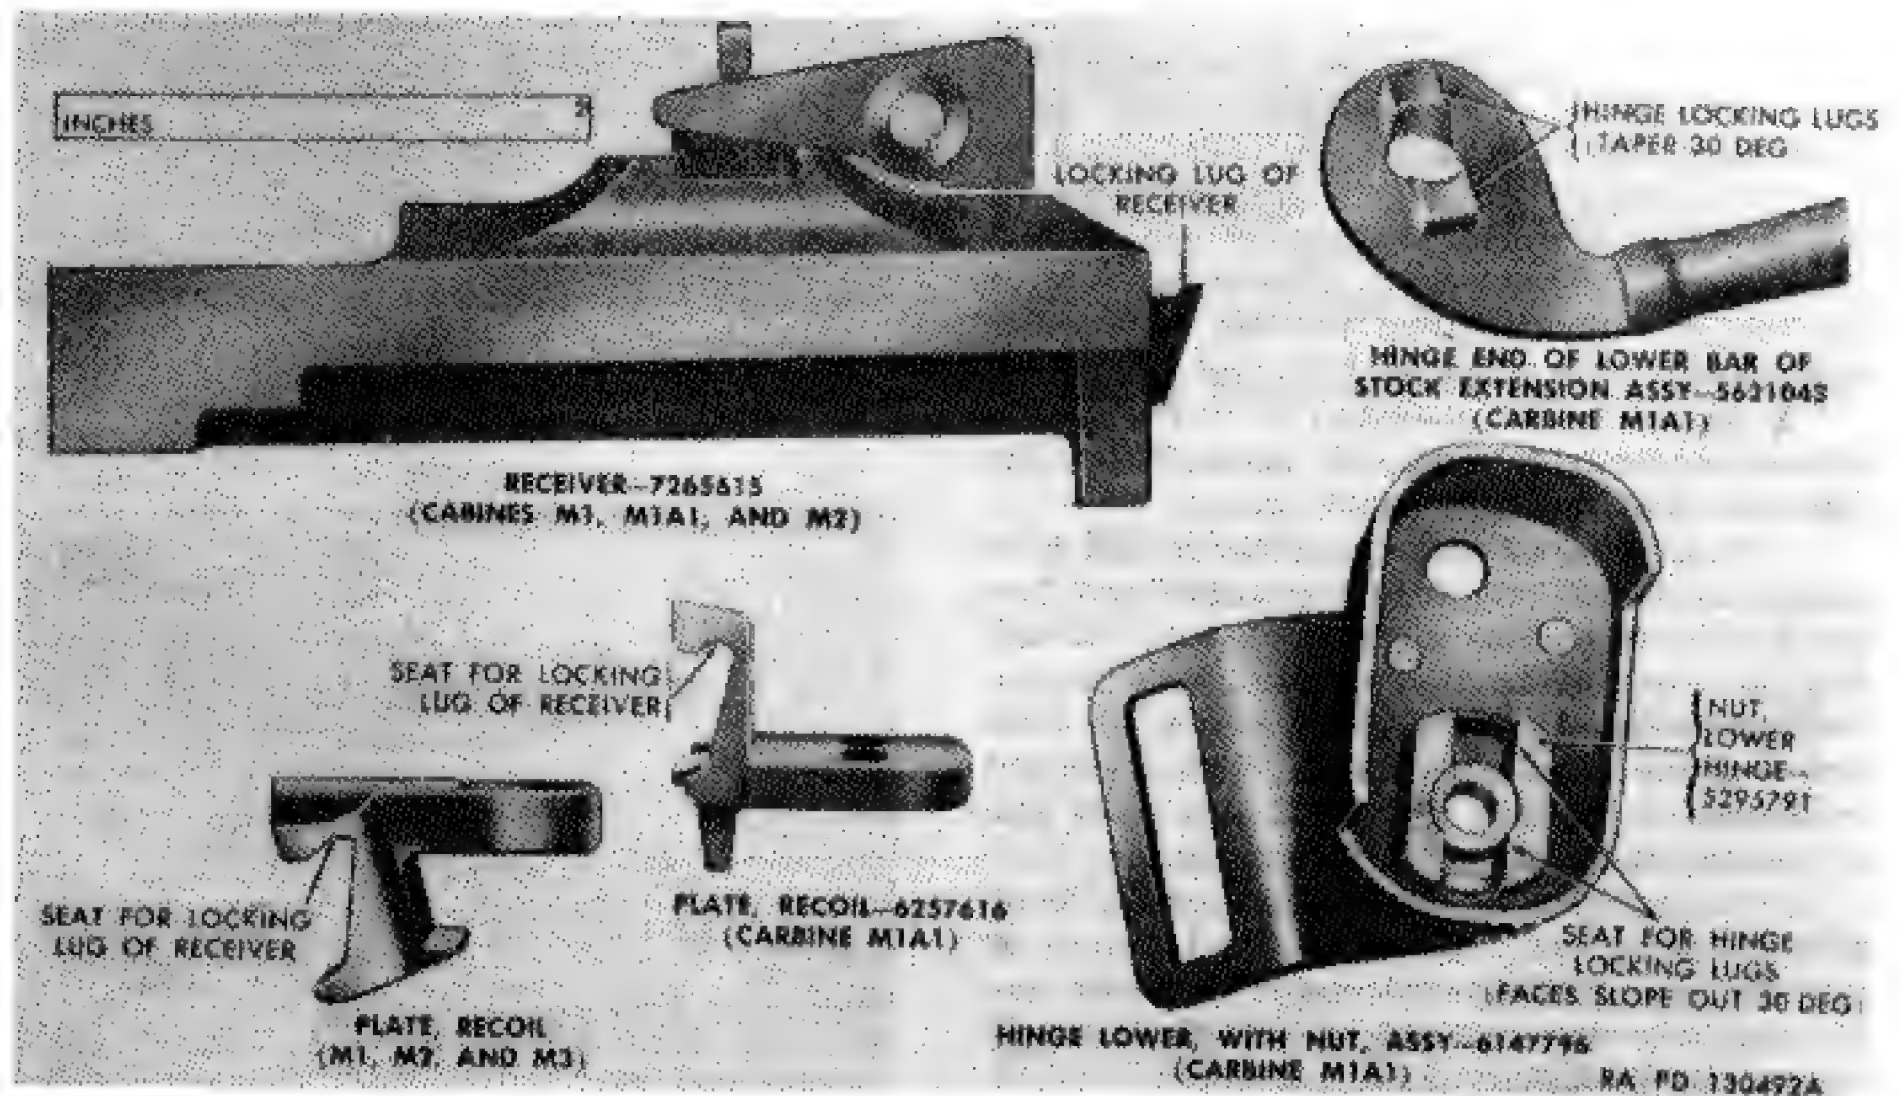

Figure 104. Important wearing surfaces.
*e. Recoil Plate.* Check to assure that recoil plate is free from burrs, excessive wear (Fig. 104) and rust, and that it is properly bedded in stock. Where recoil plate is bedded so deeply in stock that it interferes with proper alignment of action, the stock must be rejected. The recoil plate screw escutcheon should not turn in the stock, have burrs, or worn threads. The screw should be tightened firmly.
f. Inspect receiver locking lug seat in recoil plate for wear and burrs (Fig. 104). When assembling, the locking lug on receiver should cam smoothly into the seat and be held there snugly without play or shake.
i. Inspect locking nut for looseness in lower hinge shell. Inspect shell for deformation. Inspect sling eyelet for looseness on hinge shell (Fig. 104). (Nut is staked or spot-welded in shell and eyelet spot-welded to shell.) Check locking slot in nut for wear and burrs (angle of slot face is 30 degrees). Inspect lower hinge screw for wear and inspect threads in grip for stripping.
j. Inspect hinge on upper bar for deformation and cracked welding and lock on corresponding end of lower bar for deformation, cracked welding, and worn locking lug (Fig. 104). The proper mating of lock and nut determine the rigidity of the stock extension when extended or folded. Angle of lock faces should correspond to that of the nut. Wear of lock or nut will cause looseness and improper locking.